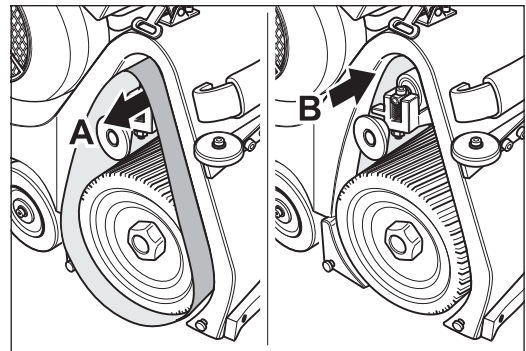
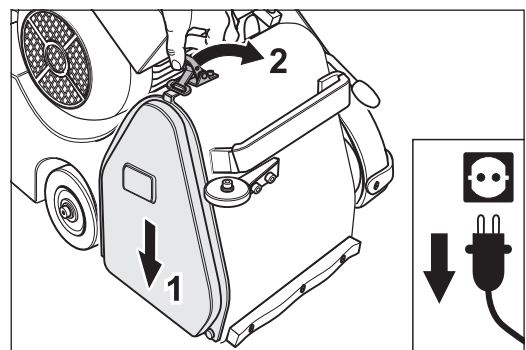

Fig. 78 If the sanding belt runs in direction of **A** or **B**, the setting of the sanding belt regulation is necessary.
Fig. 79 Mount the side cover.
- 5 If the sanding belt runs to the front (towards **A** in fig. 78) or to the back (towards **B** in fig. 78) the setting of the sanding belt regulation is necessary (→ *Section 7.3.2, Setting the sanding belt tracking*). If the sanding belt tracking is alright, mount the side cover (fig. 79).
If the sanding belt is running out of true (in direction of **A** or **B** in fig. 78), it must be turned around and another test performed.
If the sanding belt runs to the front (in direction of **A** in fig. 78) and after turning over runs to the back (in direction of **B** in fig. 78) or vice versa, the sanding belt is of poor quality and is **not usable** (conical sleeve)!
- 9** After successful setting of the sanding belt tracking mount the side cover (fig. 79).